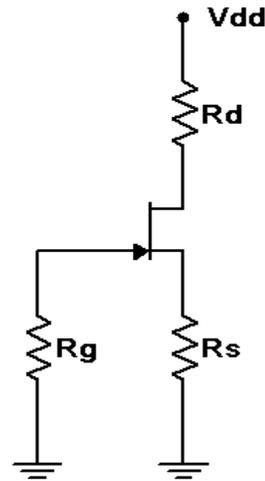

Figure 2
3. Consider the circuit of Figure 2 using  $V_{dd} = 15$  volts,  $R_g = 330 \text{ k}\Omega$ ,  $R_d = 4.7 \text{ k}\Omega$ , and  $R_s = 2.2 \text{ k}\Omega$ . Using the values of Table 1, calculate and record the expected voltages for JFET 1 in Table 2. Also record the expected drain current in Table 3.
4. Build the circuit of Figure 2 using  $V_{dd} = 15$  volts,  $R_g = 330 \text{ k}\Omega$ ,  $R_d = 4.7 \text{ k}\Omega$ , and  $R_s = 2.2 \text{ k}\Omega$ . Measure and record the voltages for JFET 1 in Table 2. Based on  $V_D$ , compute and record the experimental drain current in Table 3. Also determine and record the drain current deviation.